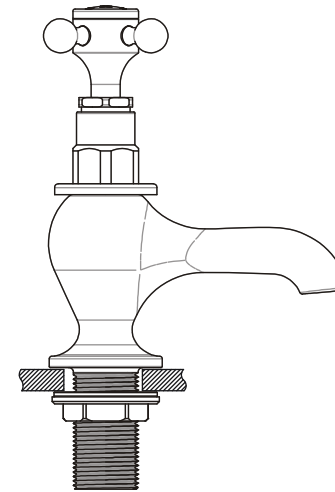

Fig. 2
- Use the washers and backnuts to install the taps into the bath as shown in Fig. 2;